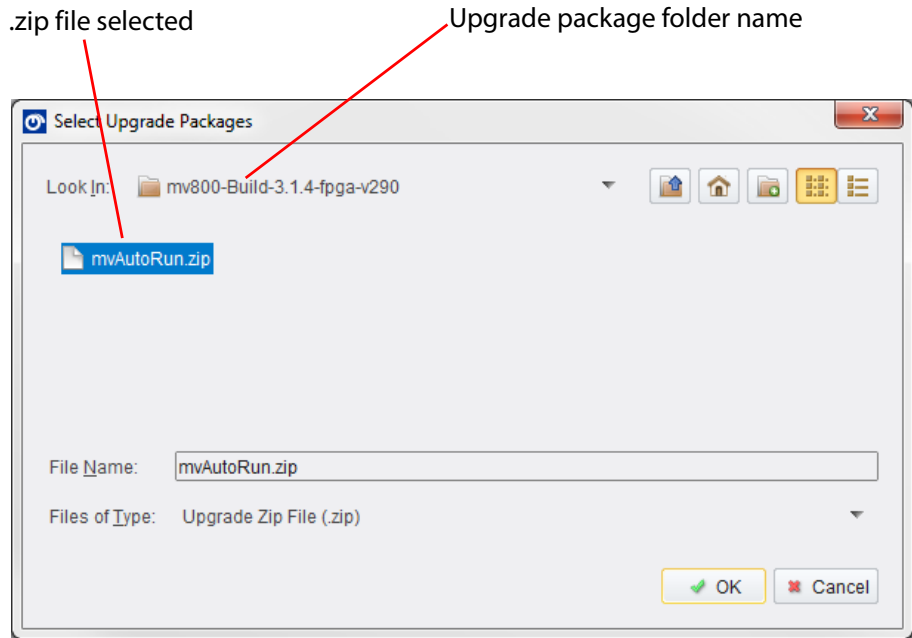

Fig. 11-6: Select Upgrade Package Window
- 5 Click **Import Licenses**. Navigate to the license zip file and **select** the license file name. Click **OK**. The license is imported into RollCall Control Panel and is added to the listed licenses. See Figure 11-6.
Click on the .zip file name (see Figure 11-6).